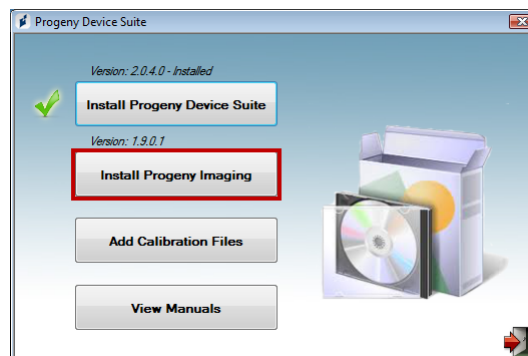

Figure 6: Starting the Progeny Imaging installation
- A green check mark next to the 'Install Progeny Device Suite' button will appear when Progeny Device Suite installation is completed. Continue by installing Progeny Imaging software by clicking on 'Install Progeny Imaging' button (Figure 6) and follow the prompts on the screen to perform the installation.